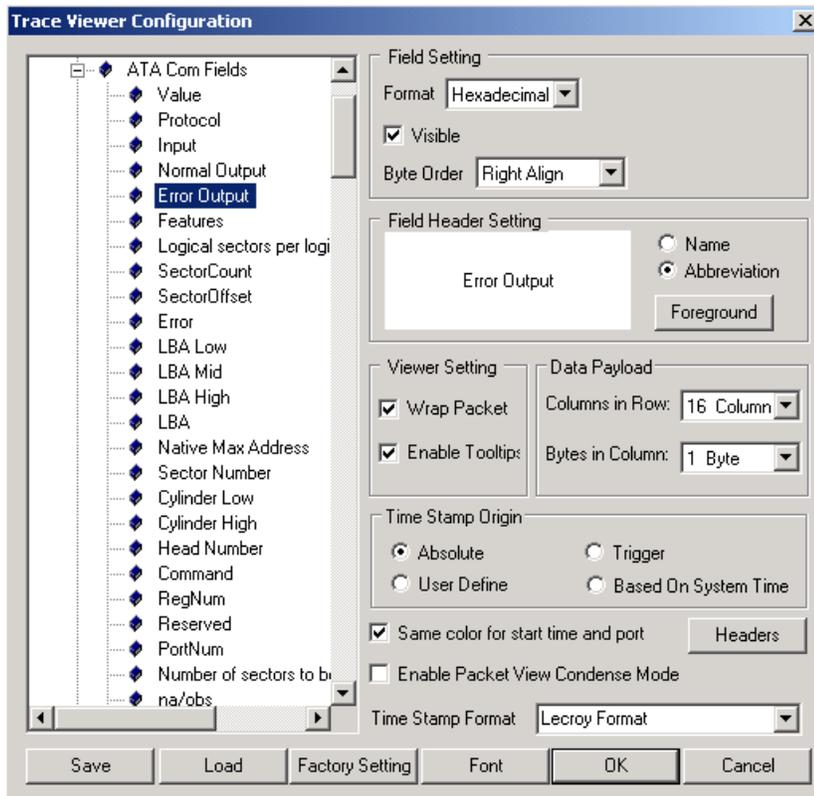

Figure 3.145: Preferences Dialog Trace Viewer Configuration Tab
**Configuration:** Clicking **Configuration** displays the Trace Viewer Configuration dialog (see Figure 3.145 on page 214).